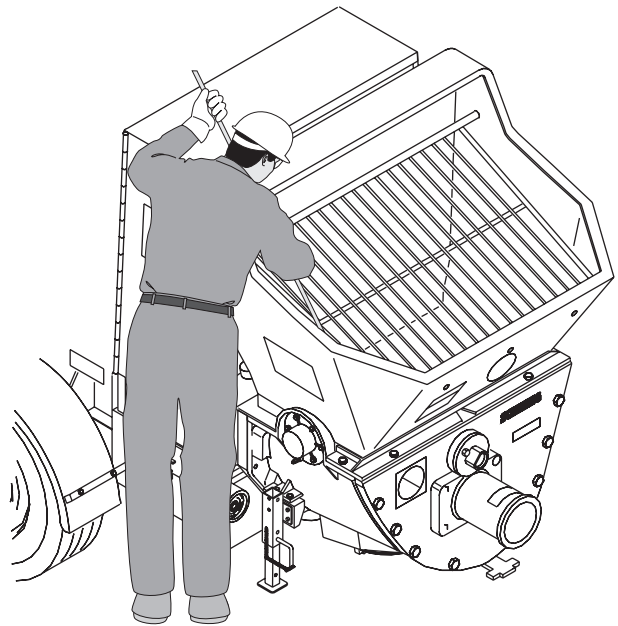

Figure 21
- Poke any material that has set in the corners of your hopper with a piece of rebar or another stiff, long bar (Figure 21). Do not remove the hopper grate for this cleanout procedure. This procedure must be done with the hopper grate in place. **Do not spend too much time on this procedure**, or the concrete will have time to set up in the rock valve and material cylinders.